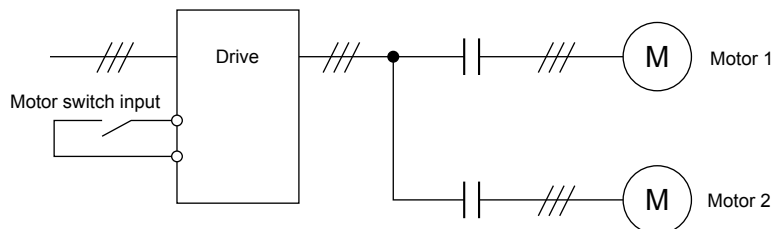

**Figure 5.48 Fast-stop Sequence**
*Figure 5.48* shows an operation example of Fast-stop.